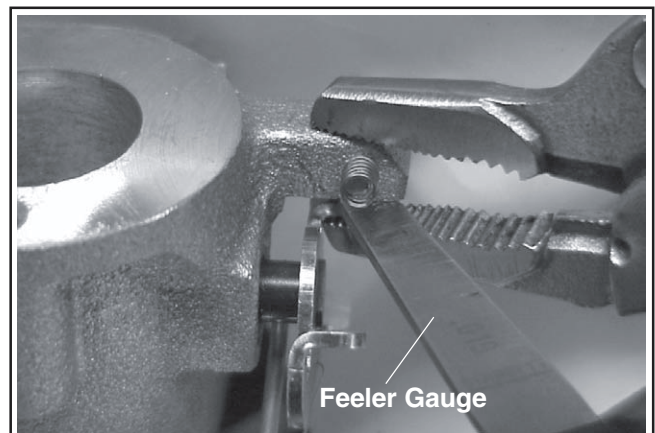

Figure 5B-35. Inserting Feeler Gauge (Engines Without Stop Screw).
- b. On engines with a stop screw, pivot the throttle shaft and plate into the "Full Throttle" position, so the tang of the throttle shaft plate is against the end of the high-speed stop screw. See Figure 5B-34. Temporarily clamp in this position.